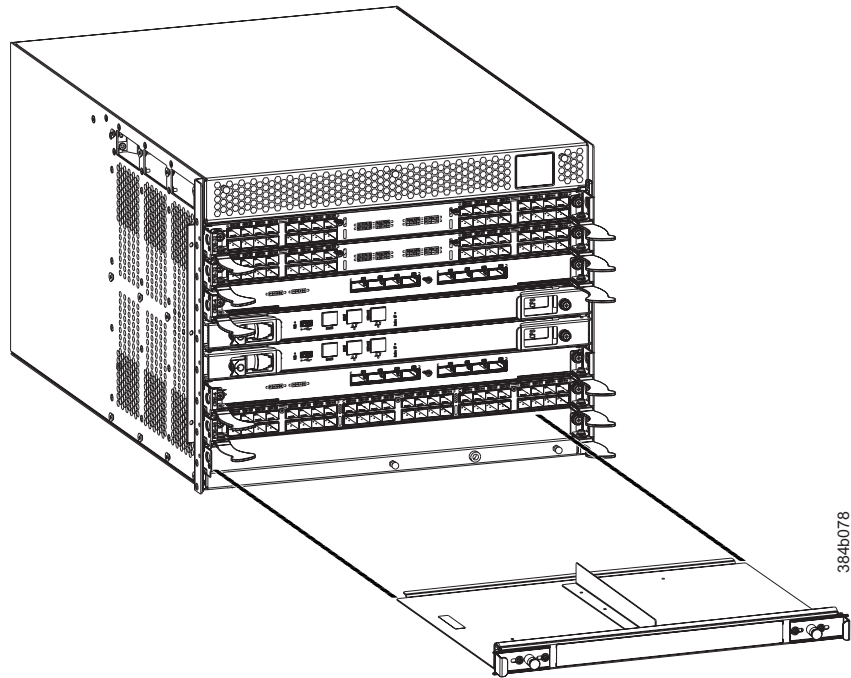

Figure 34. Filler panel removal and installation
3. Using the handles, pull the filler panel out of the chassis (Figure 34 on page 73).
1. Orient the filler panel in front of the empty slot (see Figure 34).